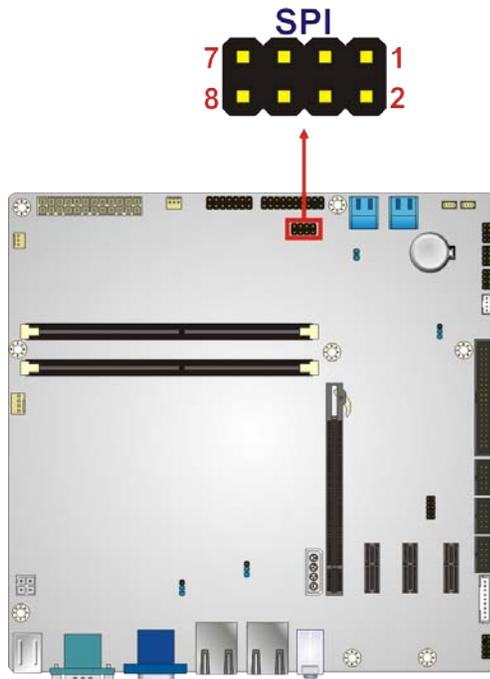

Figure 3-19: SPI Connector Location
- CN Location: See **Figure 3-19**